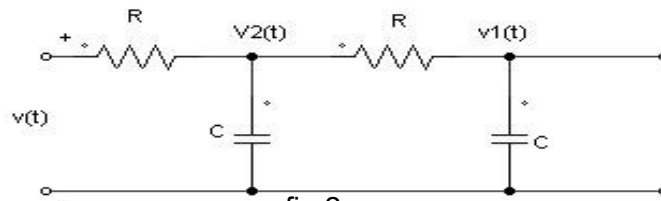

fig.2
2. Obtain the state model of the electrical network shown in fig.2 by choosing $v_1(t)$ and $v_2(t)$ as state variables.